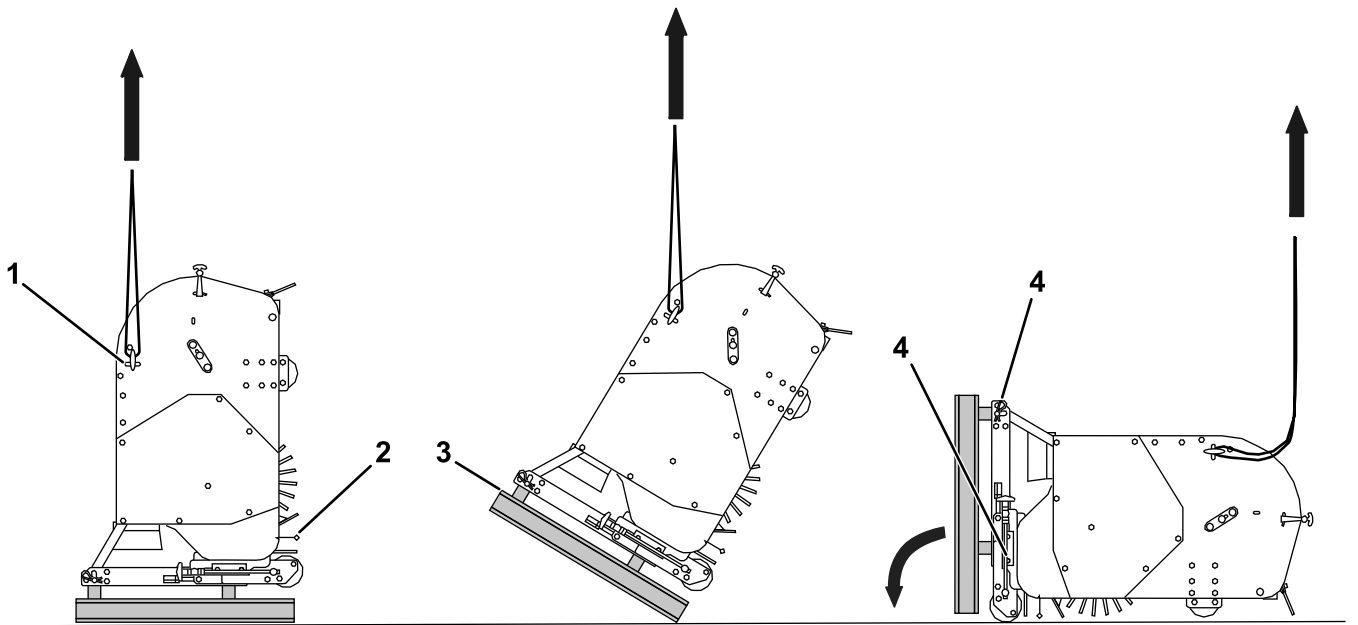

Figure 3
5. Gently lower the attachment in a controlled way as shown in Figure 3 until it is on the ground.